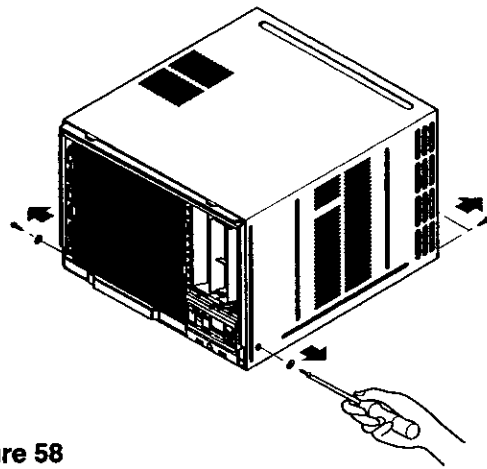

Figure 58
2. Remove the two screws which fasten the cabinet at back. (See Figure 58)